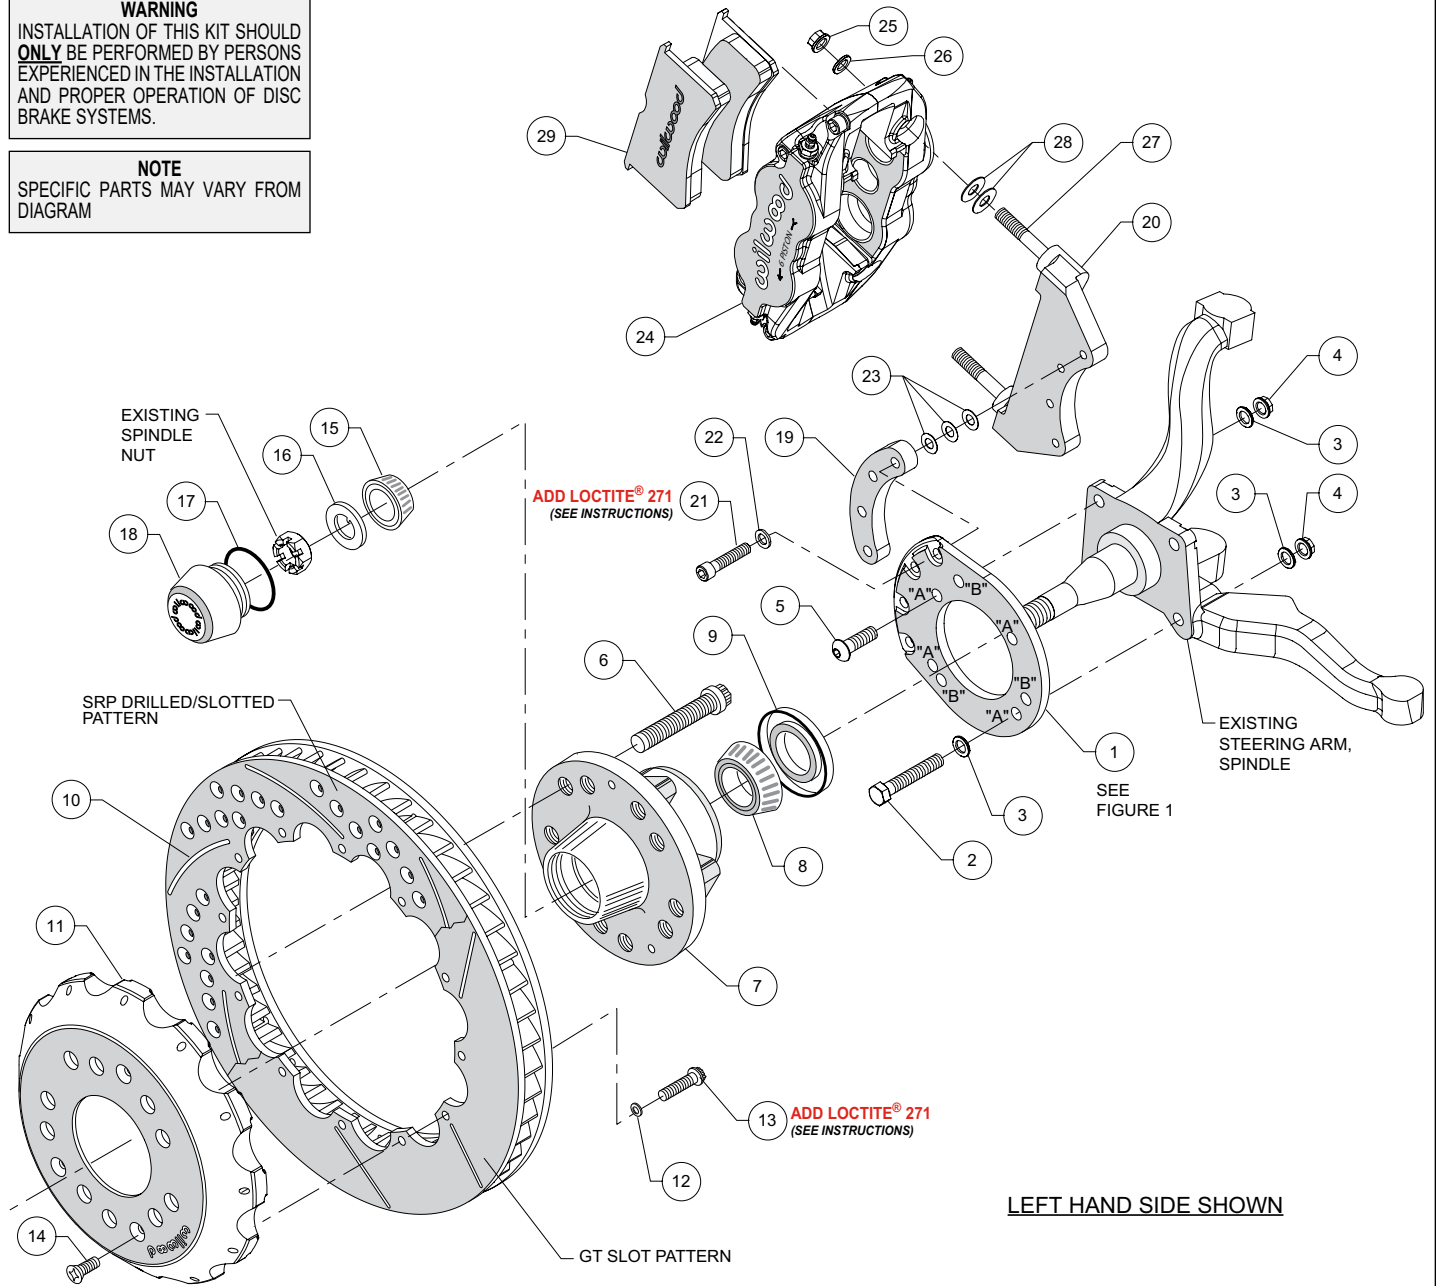

Figure 2. Typical Installation Configuration
NOTE: Numbers in parenthesis refer to the parts list and Figure 2 on the preceding pages.
•Align bracket, using the four "A" holes, to the face of the spindle and attach using bolts (2 and 5), washers (3), and lock nuts (4), as shown in Figure 2 and Photo 1. Temporarily tighten the mounting bolts. **NOTE:** The bracket must fit squarely against the mounting points on the spindle. Inspect for interference from casting irregularities, machining ridges, burrs, etc. Torque lock nuts (4) to 30 ft-lb.
•Install wheel studs (6) into the hub (7), Photo 2. Torque to 77 ft-lb. **NOTE:** There are two five lug patterns in the hub (5 x 4.50 and 5 x 4.75). Ensure the correct hub stud pattern is being used to fit the wheel application.
•Pack the large inner bearing cone (8) with high temperature disc brake bearing grease (available from your local auto parts store) and install into the backside of the hub (7), Photo 3.
•Install the grease seal (9) by pressing into the backside of the hub (7), flush with the end of the hub, Photo 3.
•Pack the small outer bearing cone (15) with high temperature disc brake bearing grease and install into hub (7). Slide the hub assembly onto the spindle. Secure using spindle washer (16) and OEM spindle nut, Photo 4. Adjust bearings per OEM specifications. Install saved OEM nut lock (if any) and a new cotter pin (not included).
•Screw dust cap (18) into hub (7), Photo 5. Friction created by the o-ring (17) on the dust cap keeps it from unscrewing. **NOTE:** The O.D. of the existing OEM spindle washer may be larger than the I.D. of the dust cap not allowing it to seat against the hub face. Therefore, use the spindle washer (16) supplied with the kit instead of the OEM washer.
•Orient the rotor (10) and the hat (11) as shown in Figure 2 and Photo 6. Attach rotor to hat using bolts (13) and washers (12). Apply red Loctite® 271 to the bolt threads and torque to 155 in-lb using
- Slide the hat/rotor assembly (10/11) onto the hub (7) taking care to align the small countersunk holes in the hat with the small threaded holes in the hub (7). **NOTE:** The hat must fit flush against the hub face or excessive rotor run out may result. Install three flat head screws (14) through the small holes in the hat, Photo 5, and torque to 85 in-lb.
- Attach the caliper mounting bracket (20) to the spindle bracket (1) using bolts (21), washers (22), and spacer (19) as shown in Figure 2 and Photo 7. Initially place three .015" thick shims (23) on each bolt between the spacer and the caliper bracket. Temporarily tighten the mounting bolts. Later, after the caliper alignment has been checked, the mount bolts will be secured using red *Loctite*® 271.
- NOTE:** This kit contains distinct right and left hand calipers that must be mounted in a specific direction, as described below. Initially place two .035" thick shims (28) on each stud between the caliper and the bracket, as shown in Figure 2 and Photo 8. Mount the caliper (24) onto the bracket (20) using lock nuts (25) and washers (26), Figure 2. Ensure that the caliper is mounted so the largest pistons are at the rotor exit end of the caliper, in relation to the direction of rotor rotation. Temporarily tighten the lock nuts and view the rotor through the top opening of the caliper. The rotor should be centered in the caliper, Photo 9. If not, adjust by adding or subtracting shims (23) between the caliper bracket (20) and the spacer (19). Always use the same amount of shims on each of the four mounting bolts. Once the caliper alignment is correct, remove the bracket mounting bolts one at a time, apply red *Loctite*® 271 to the threads, and torque to 30 ft-lb.